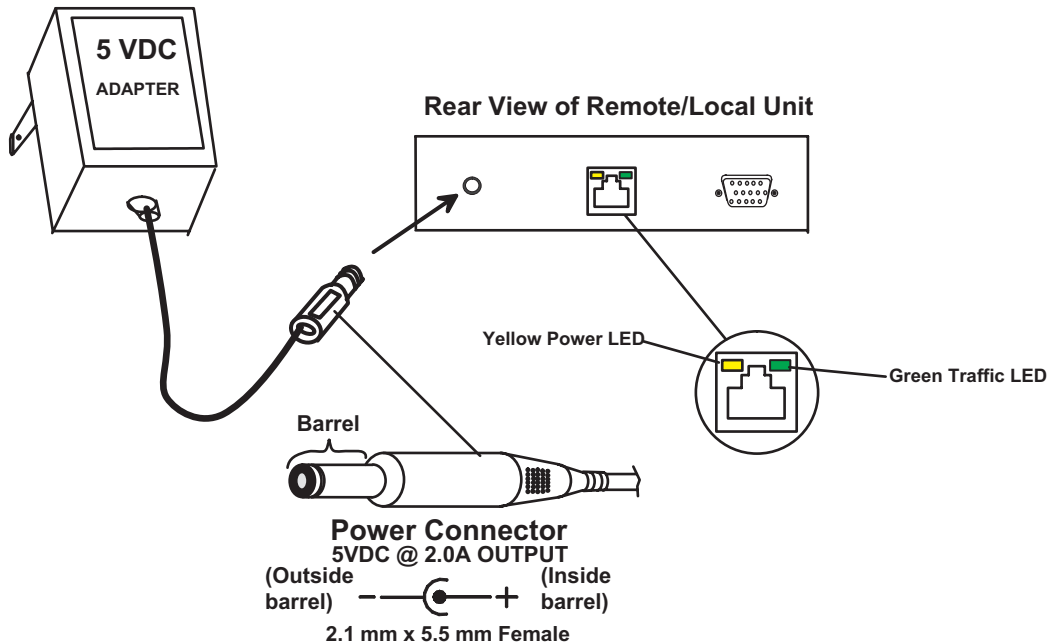

Figure 4- Connect the AC adapters to the Remote and Local Units
2. Connect the power connector from each AC adapter to the 5VDC port on the Remote and Local Units. Make sure each power connector goes into the port all the way. Plug each AC adapter into a power outlet. The yellow LED on the RJ45 connector on the Remote and Local Units should illuminate, indicating that a proper power connection has been made to both. (See Fig. 4.)
NOTE: The green LED on each RJ45 connector will illuminate anytime data traffic is passing between the Local and Remote Units, indicating proper CAT5 cable connection and communication. (See Fig. 4)